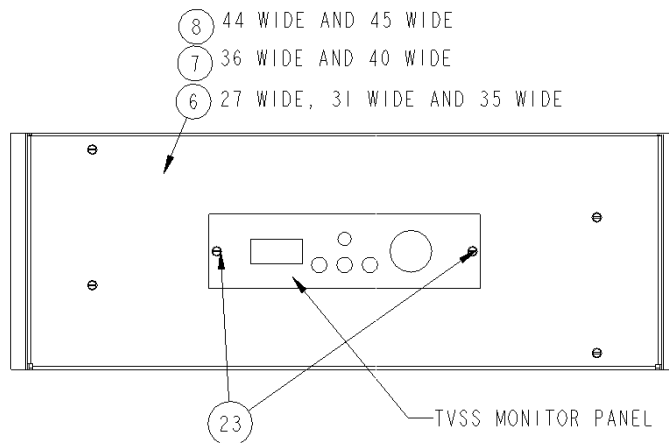

Figure 11. TVSS monitor plate mounted to the cover.
- 7. Install the TVSS monitor plate to the filler plate.** Mount the monitor plate, provided with the TVSS, to the cover plate [6, 7, or 8], as shown in Figure 11. Secure with two 10-32 x 7/16" thread-forming screws [23] and tighten to 22 in-lb.